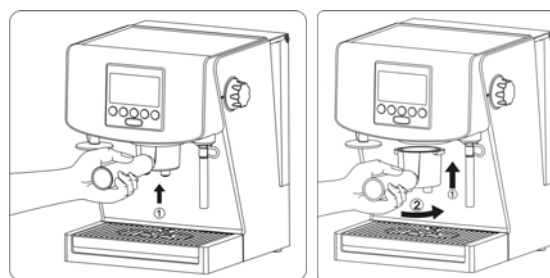

Fig. 3
- 6.1.3. Attach the empty filter handle (6) to the brew head (4), by turning it with a firm motion to the right (Fig. 3).
- 11.10. Attach filter handle (6) to the brew head (4), by turning it with a firm motion to the right (Fig. 3).
- 12.10. Attach filter handle (6) to the brew head (4), by turning it with a firm motion to the right (Fig. 3).
- 13.10. Attach filter handle (6) to the brew head (4), by turning it with a firm motion to the right (**Fig. 3**).